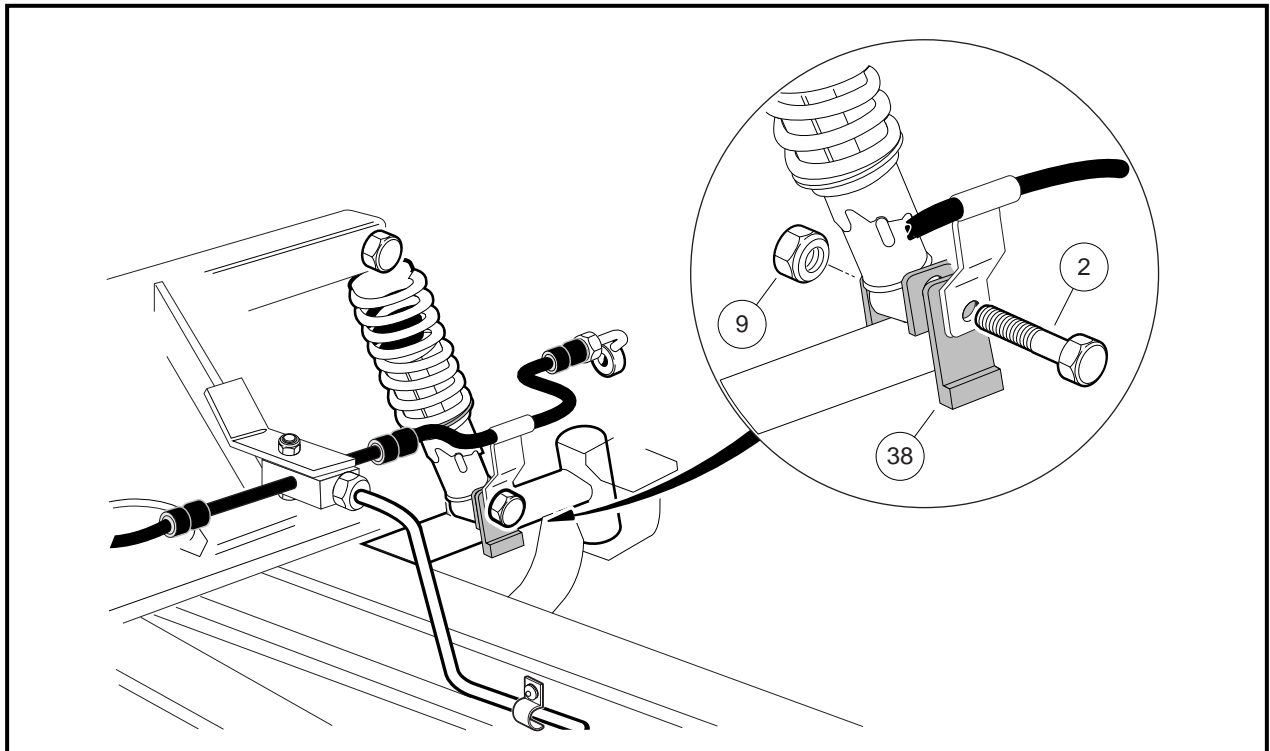

Figure 7-30 Shock Absorber Removal
3. Remove the bolt (2) and nut (9) attaching the shock absorber to the A-arm **(Figure 7-30, Page 7-19)**.
4. Remove the steering stop weldment (38) and brake hose support bracket from the A-arm **(Figure 7-30, Page 7-19)**.